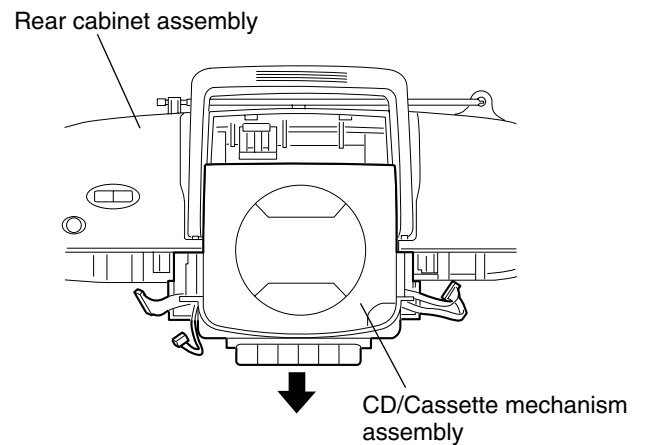

Fig.22
7. Slide the CD/Cassette mechanism assembly in the direction of the arrow and take out it. (See Fig.22.)